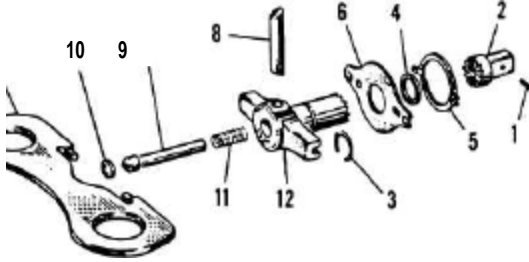
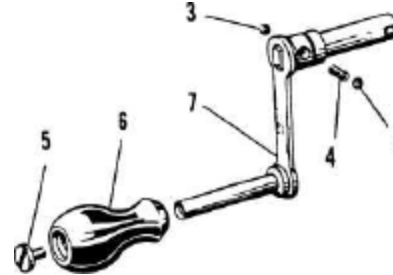
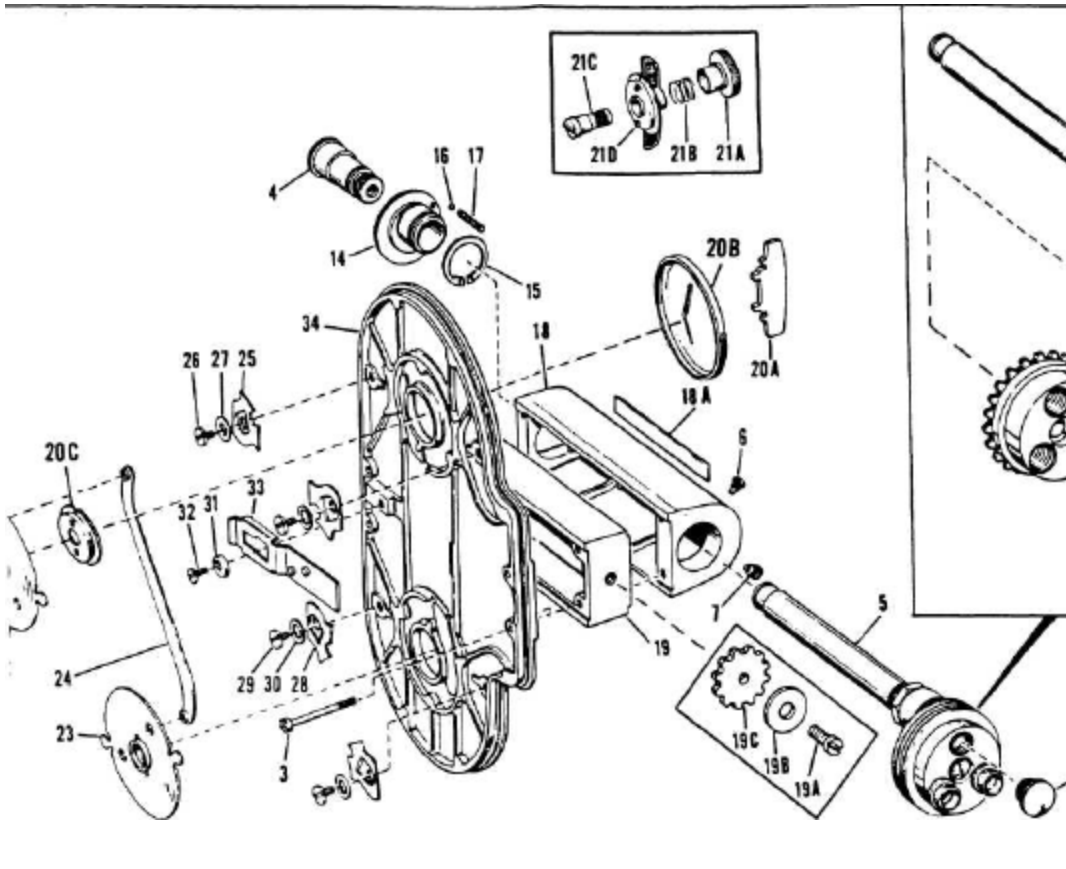

Figure 1. Winding Key Assembly
Figure 2. Hand Crank Assel
Figure 3. Camera Cover Asse
25. HAND CRANK ASSEMBLY. (See Figure 2.)
a. Fasten the crank handle (6) to the spindle of the hand crank (7) with the fillister head screw (5).
b. Insert the compression spring (4) and two steel balls (3) into the opening in the crank stem, and hold them with the thumb and forefinger while slipping the hand crank dial (2) up into place. Install the compression locking spring (1).
26. WINDING KEY ASSEMBLY. (See Figure 1.)
a. Place a small amount of vaseline on the teeth of the spring shaft (9) and the teeth of the ratchet (2) and key body (12). Insert the spring (11) and spring washers (9) down into the key body (12), and install the lock ring (10).
b. Compress the spring by pulling the end of the spring shaft until the uncoupling bar (8) can be inserted through the opening in the key body.
c. Hold the handle plate (7) in position with the prongs in the key body slots, and install the compression spring (6) and split retaining collar (4). Then slide the friction clip (5) up over the key body, and install the retaining ring (3).
d. Slide the ratchet (2) onto the lower end of the spring shaft so that the ratchet teeth engage the teeth on the key body and the hole in the ratchet is aligned with the hole in the shaft. Install the pin (1) to lock the ratchet in place.
27. FOCAL LENGTH ADJUSTMENT. (See Figure 3.)